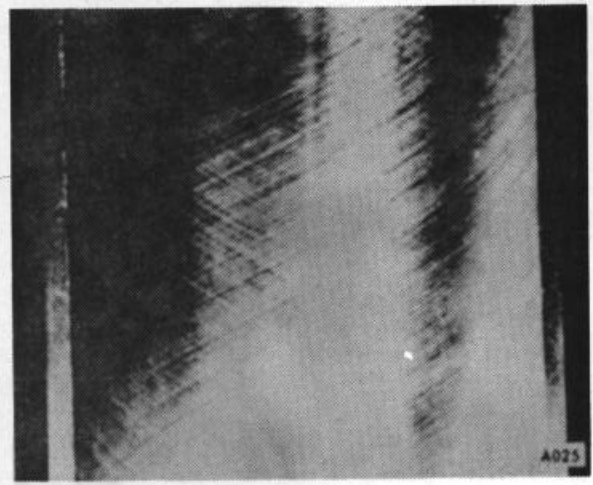

Figure 24.
6. Cross hatches should be clearly visible after glaze breaking operations. (Fig. 24)